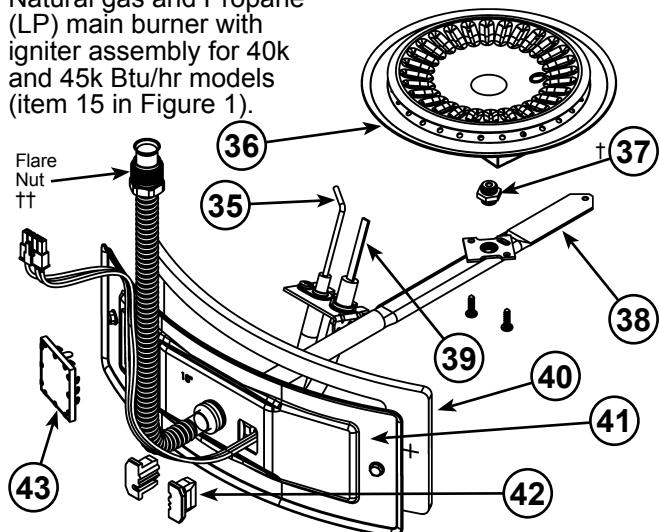
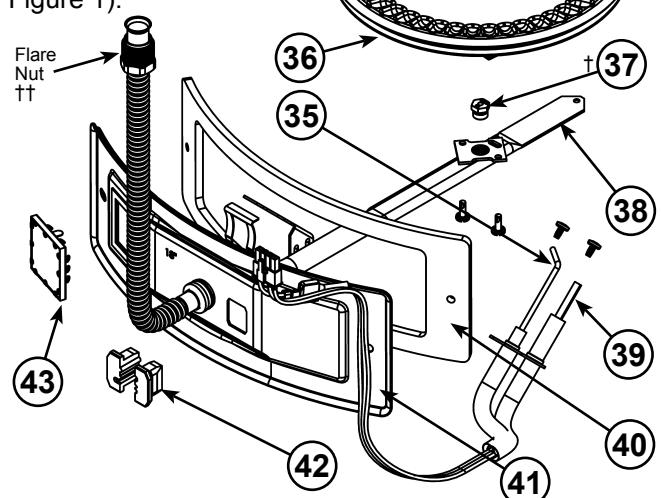

Figure 60.
Figure 61.
- 15 Manifold Door Assembly (behind outer door) (see Figure 3 & Figure 4) (see also **Figure 60 & Figure 61**)
- 35 Flame Sensor Rod (see Figure 3 & Figure 4) (see also **Figure 60 & Figure 61**)
- 36 Sheet Metal Burner (see Figure 3 & Figure 4) (see also **Figure 60 & Figure 61**)
- 37 Gas Orifice (see Figure 3 & Figure 4) (see also **Figure 60 & Figure 61**)
- 38 Gas Manifold (see Figure 3 & Figure 4) (see also **Figure 60 & Figure 61**)
- 39 Hot-Surface Igniter (see Figure 3 & Figure 4) (see also **Figure 60 & Figure 61**)
- 40 Manifold Door Gasket (see Figure 3 & Figure 4) (see also **Figure 60 & Figure 61**)
- 41 Manifold Door (see Figure 3 & Figure 4) (see also **Figure 60 & Figure 61**)
- 42 Two Piece Grommet With Clip (see Figure 3 & Figure 4) (see also **Figure 60 & Figure 61**)
- 43 Viewport (see Figure 3 & Figure 4) (see also **Figure 60 & Figure 61**)